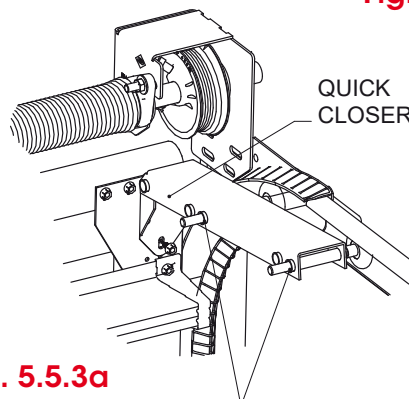

Fig. 5.5.3a
- c) Assemble the quick closer with the (2) two wheel axles supplied ensuring the wheel axles are inserted through the rear of the holes provide as per Figure 5.5.3a for single stile or 5.5.3b for double end stile.